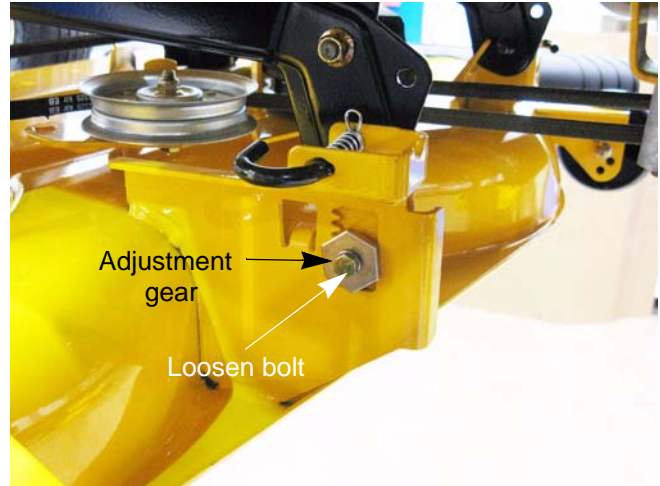

Figure 7.25
- Loosen, but do NOT remove, the hex bolt on the front left deck hanger link. See Figure 7.25.
- To level the deck turn the adjustment gear, located immediately behind the bolt. Turn the gear clockwise (rearward) to raise the left side of the deck. Turn the gear counter-clockwise (toward front) to lower the left side of the deck. See Figure 7.25.